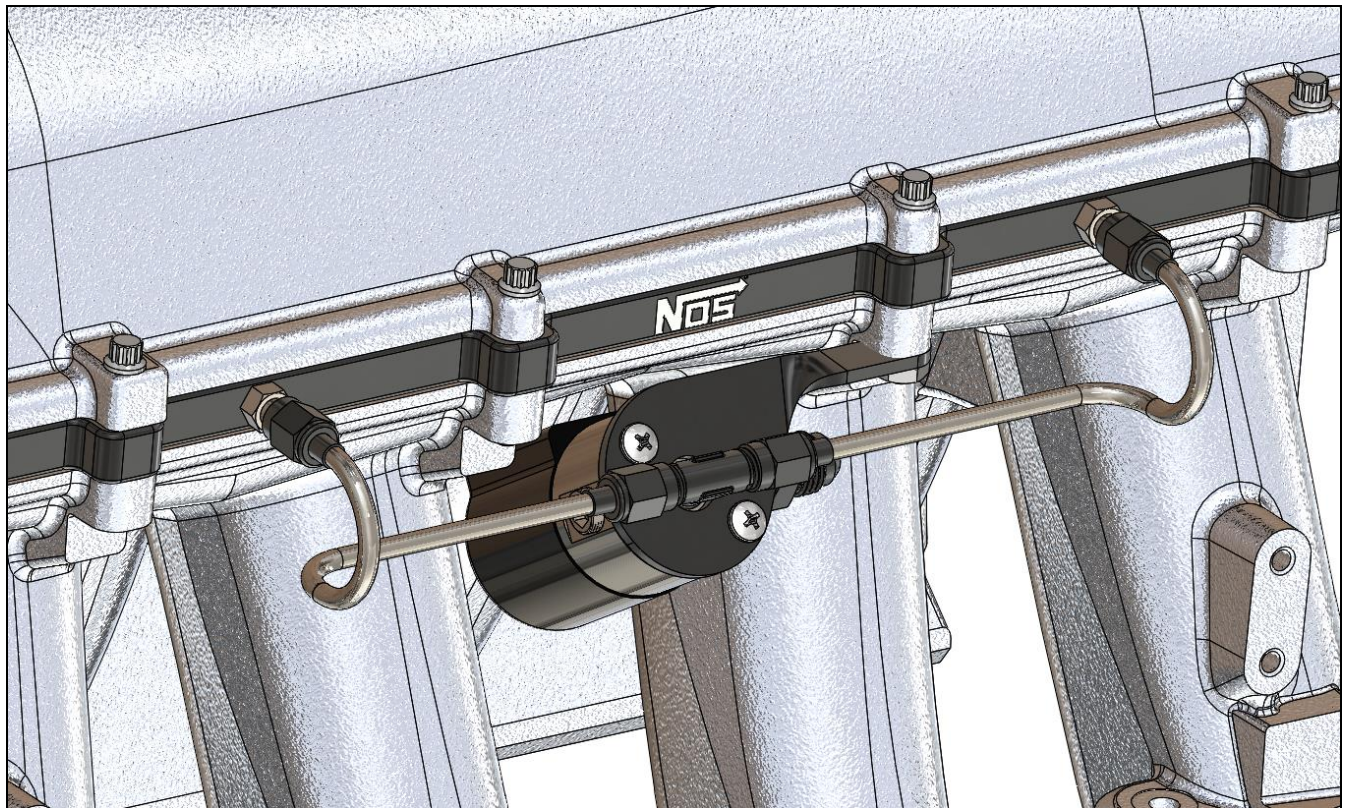

Figure 13 – Nitrous Supply Line Installation
9. Install the desired jets and nitrous supply hardlines as shown in figure 13. Once you have lined up the hardlines secure the low profile nut that is retaining the solenoid bracket to 106 in-lbs. Finally tighten the -3AN hardline nuts to the tee and jet holders.